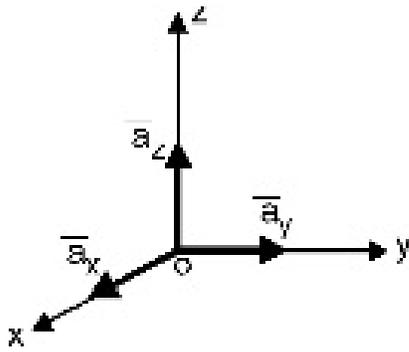

Fig. 6.1.3 : Unit vectors
- Unit vectors in Cartesian system are \bar{a}_x , \bar{a}_y and \bar{a}_z . These vectors are in the positive x, y and z directions as shown in Fig. 6.1.3. Instead of \bar{a}_x , \bar{a}_y and \bar{a}_z many times different notations are used like \hat{a}_x , \hat{a}_y , \hat{a}_z .